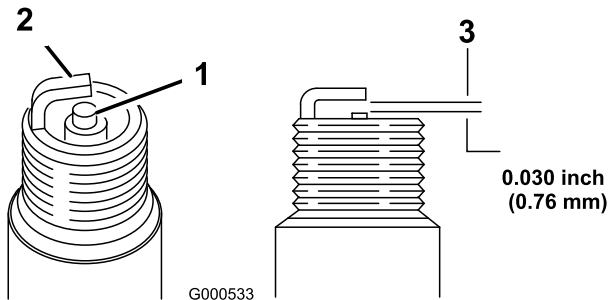

Figure 32
11. Set the gap on the plug to 0.76 mm (0.030 inch) as shown in Figure 32.